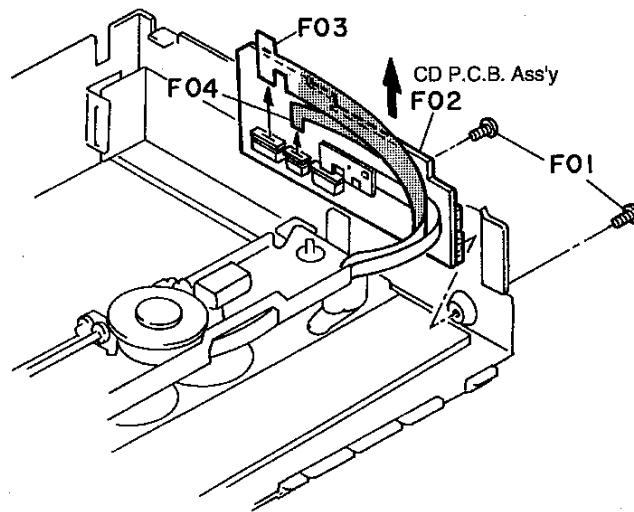
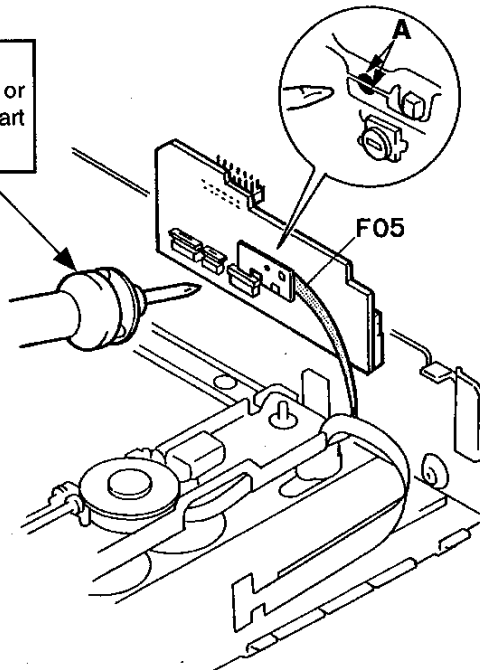

Fig. 2.5.1
Fig. 2.5.2
- (1) Remove the Loading Ass'y. See 2.3 "Loading Ass'y".
- (2) Remove the screws F01 (M2.6x3 + Pan (Black), 2 pcs.). Refer to Fig. 2.5.1.
- (3) Lift F02 (CD P.C.B. Ass'y) and disconnect the flexible cables F03 and F04 from F02 (CD P.C.B. Ass'y).
- (4) Short the laser diode shorting lands "A" on the flexible cable F05. Refer to Fig. 2.5.2.
- (5) Disconnect the flexible cable F05 from F02 (CD P.C.B. Ass'y).